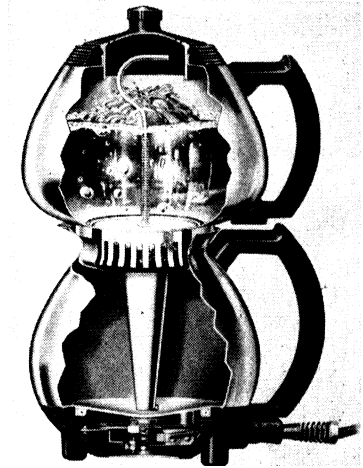

Fig. 6.14. A pressure coffee maker.
36. Pressure Coffee Makers. Coffee makers of the type shown in Figure 6.14 depend in part on atmospheric pressure for their operation. The water is placed in the lower container, the top part is fitted snugly into the lower part (a rubber gasket makes an airtight joining possible), the filtering device is put in place, and the ground coffee is placed in the top container. Then the coffee maker is placed over a source of heat -- or it may have a self-contained electric heating unit as shown in Figure 6.14. As the temperature increases, the air and water vapor in the lower container expand and force the hot water up the tube in to the upper container. In the automatic type all of the water is forced into the upper container; consequently, the temperature in the lower container rises high enough to operate a thermostat which turns the unit to low heat. Then the air and water vapor in the lower part cool and contract, thus reducing the pressure to less than atmospheric pressure, and the liquid (coffee) in the top container is forced back into the lower container.